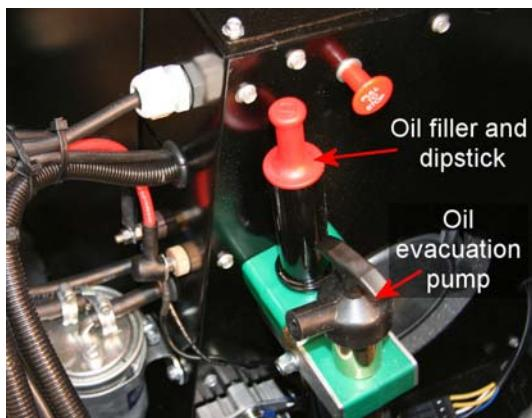

Fig 3-8 Oil filler/dipstick and pump
4. Remove the dipstick (Fig 3-8) and allow a few moments for the oil level to settle.
4. Remove the filler cap/dipstick (Fig 3-8).